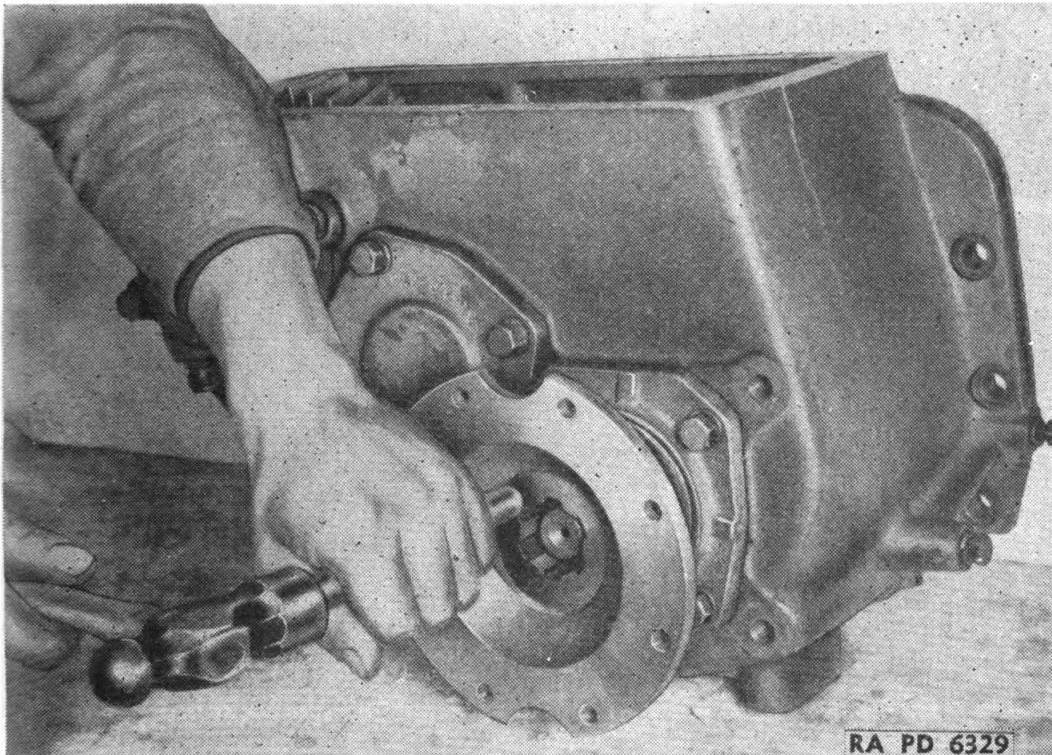

FIGURE 142.—Transfer case mainshaft companion flange replacement.
(21) Replace mainshaft companion flange—brass drift, hammer, pliers,  $\frac{1}{2}$ -inch socket wrench. Drive flange on rear end of shaft and replace washer, nut, and cotter pin (fig. 142).